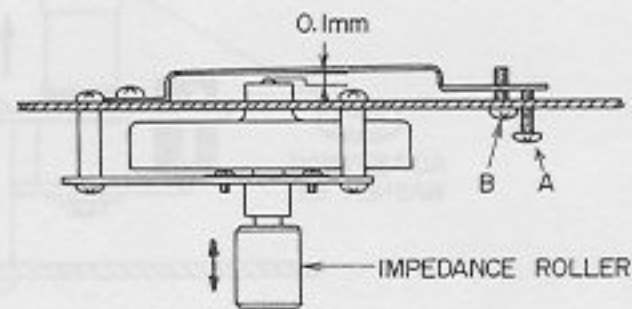

Fig. 14
4. IMPEDANCE ROLLER LOOSE PLAY ADJUSTMENT (Refer to Fig. 14)